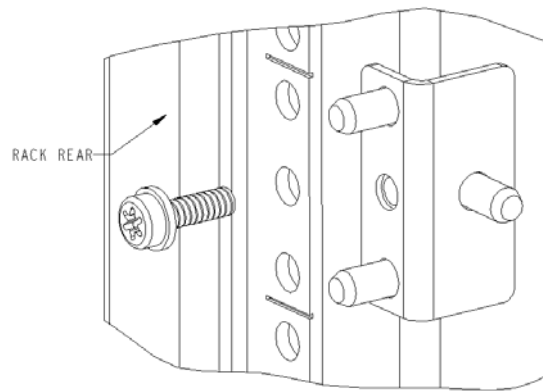

Figure 2-2. Installing the Rear Rail-Tray Brackets (HP Rack)
- For an HP rack, install each of the two mounting brackets with (1) M5 Torx head screw with captive lock washers as shown in Figure 2-2.